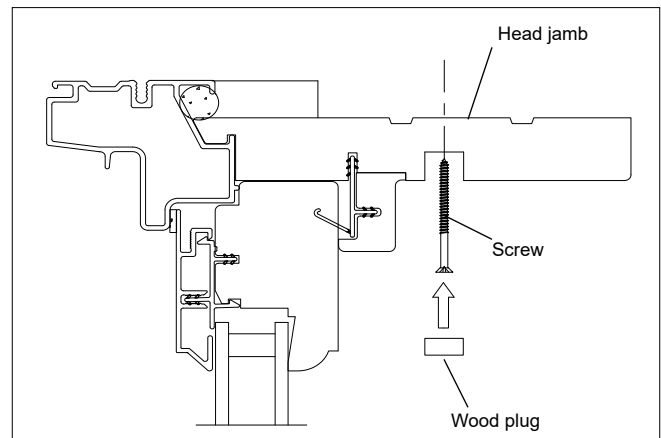

Figure 6
- Install the units per the supplied installation instruction. If supplied, use the supplied jamb installation screws and pre-drilled holes in the jamb. See figure 6.
- After the unit has been secured into the opening, use the supplied wood plug to cover the installation screws on Magnum units. See figure 6.